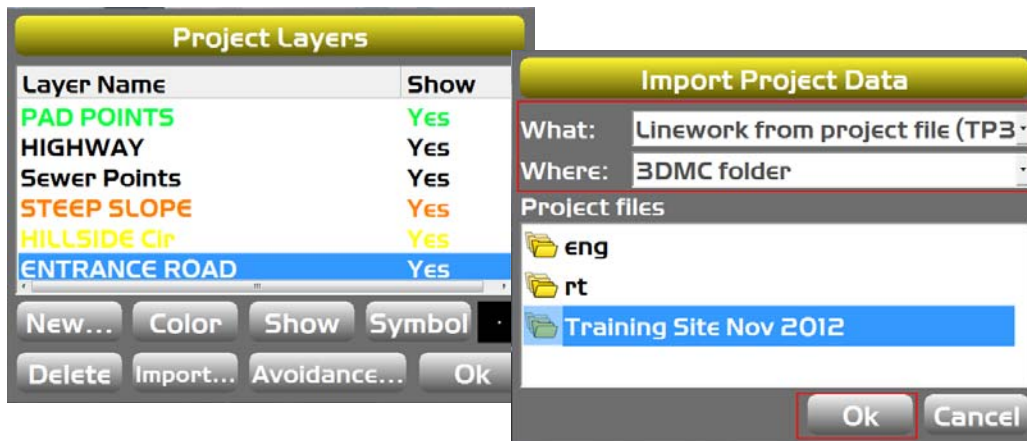

Figure 24: Importing a Linework from a Project Layer
4. Select the desired file from the **Project files** list, and tap **OK** (Figure 24).